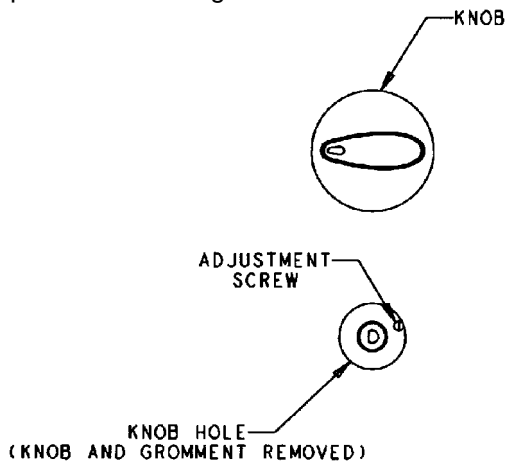

FIGURE 12 ART# 9215-209-0
**C. LOW FLAME ADJUSTMENT** (See figure 12)
3. Locate the valve adjustment screw. If necessary align hole in switch cover with adjustment screw. See figure 12.
4. Locate the valve adjustment screw. If necessary align hole in switch cover with adjustment screw. See figure 12.